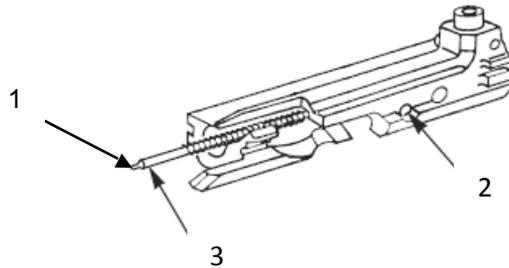

Figure 21. Slide Body and Firing Pin Retaining Pin.
1. Check for broken or damaged firing pin (Figure 21, Item 3). Check to ensure firing pin tip (Figure 21, Item 1) is round and smooth. Replace firing pin (WP 0014) as necessary.
2. Check the two firing pin retaining pins (Figure 21, Item 2) for proper installation if installed incorrectly. Drive the retaining pins (Figure 21, Item 2) in hole with punch until flush or below surface of the slide body (left side). Replace as necessary (WP 0014).